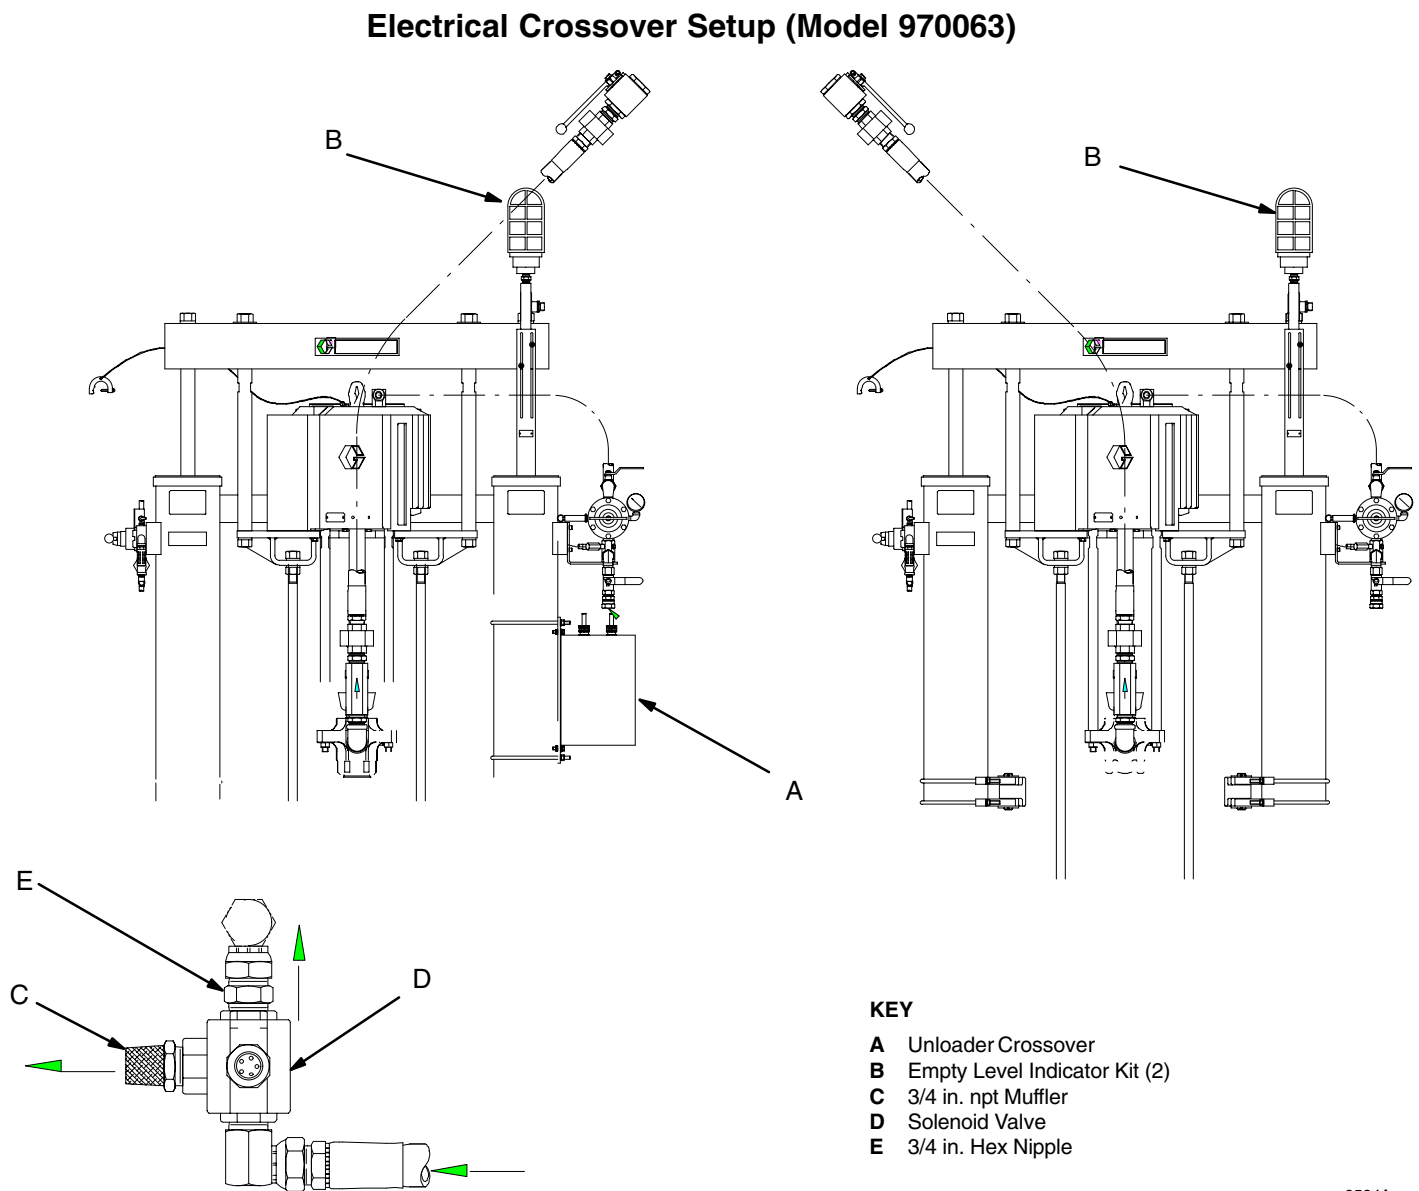

Fig. 5
The electrical crossover is setup as shown in Fig. 5 and the Unloader Crossover (A) must be connected to a 120 Volt, 60 Hz supply.
NOTE: The position of the empty level indicator kit (B) on the ram determines when the ram air motor is turned on and off. During operation, this position can be adjusted as desired. See Fig. 5.